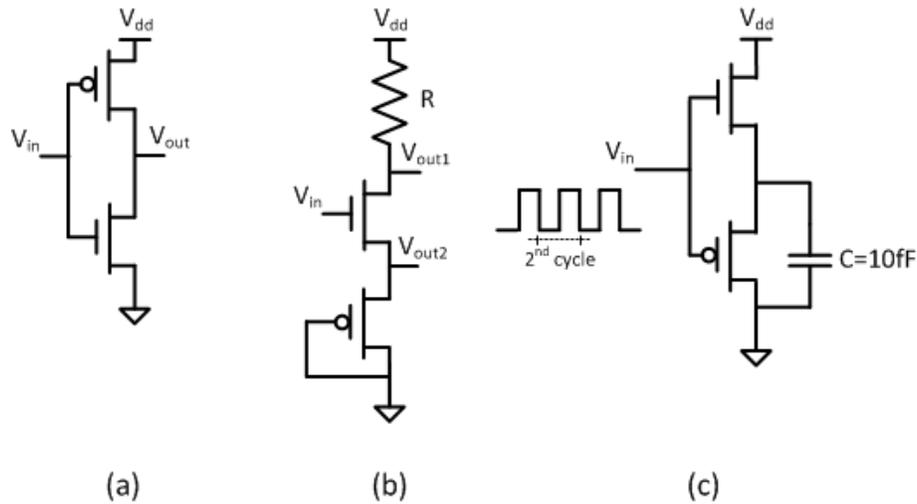

Figure 3
- a) Sketch the VTC for the gate shown in Figure 3(a), assuming  $|V_{TP}| = V_{dd}/4$ ,  $V_{TN} = V_{dd}/4$ .
- b) Now assume  $|V_{TP}| = V_{dd}/3$ ,  $V_{TN} = V_{dd}/3$ . Sketch the VTC for both outputs of the circuit shown in Figure 3(b) when  $R = R_{NMOS} = R_{PMOS}$ .
- d) Now consider the circuit in Figure 3(c).